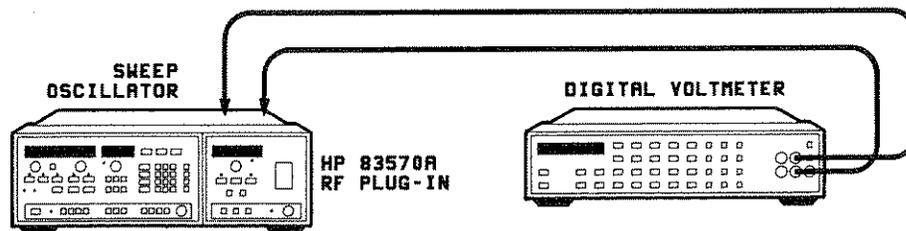

Figure 5-1. V REF/Oscillator Bias Adjustment Test Setup
1. Connect the equipment as shown in Figure 5-1. Allow the equipment to warm-up for 30 minutes.